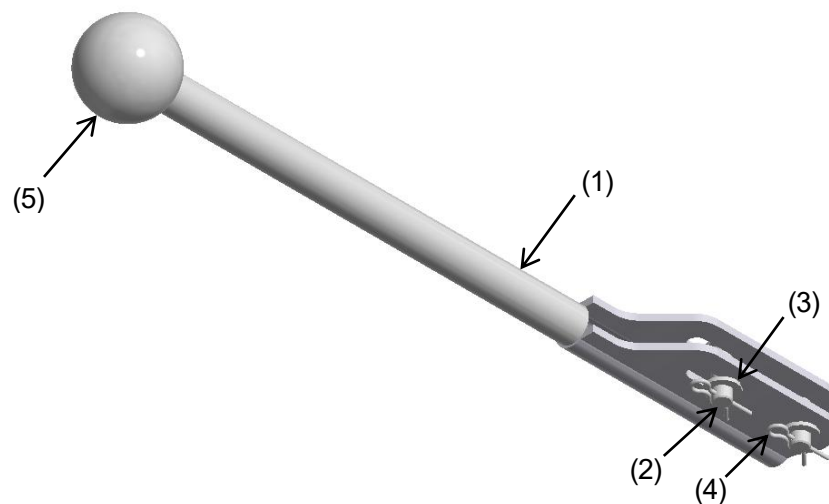

Fig. 4-3 Set of Control Lever Parts (Part Number: 2371-3-171167-XX)
- Depending on the number of actuator port modules you ordered, the shape of the assembled control lever may differ from Fig. 4-3. If there is anything missing, please contact our customer service.
- Step 2** Make sure that the main body of the product and the set(s) of control lever parts are packed in the box. When unpacking, you will see the set of control lever parts that have been assembled as shown in Fig. 4-3. Confirm that the packing contents match those shown in Table 4-1 and their quantities are correct.